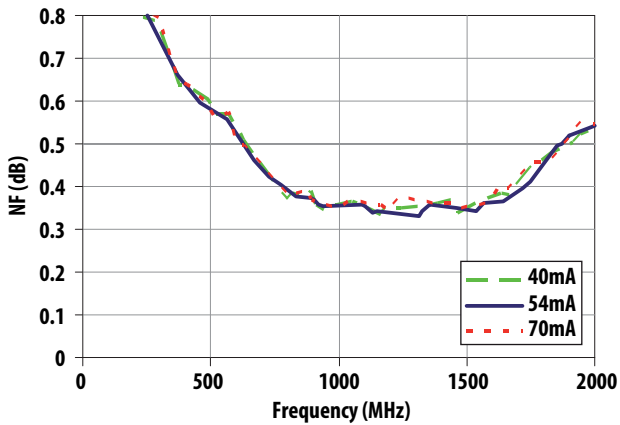

Figure 30. NF vs Frequency vs Idd
2. Scattering and noise parameters are measured on coplanar waveguide made on 0.010 inch thick ROGER 4350. The input reference plane is at the end of the RFinpin and the output reference plane is at the end of the RFoutput pin as shown in Figure 30.